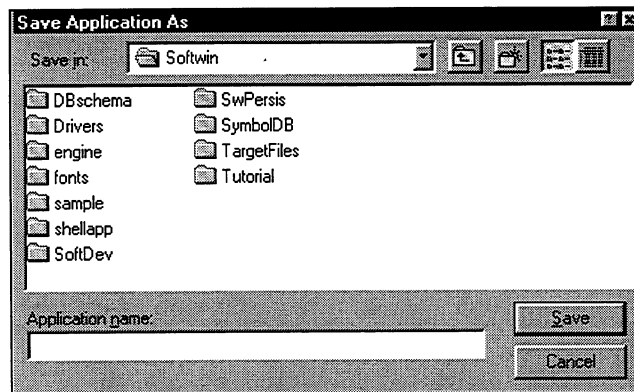

Figure 5-2. Save Application As Dialog Box
1. Select the Save Application command on the File menu or click on the Save Application button. The Save Application As dialog box opens, as shown in Figure 5-2.